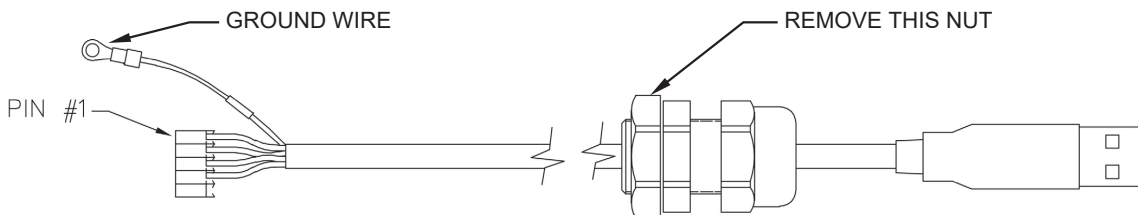

Figure No. 9
3. Loosen the gland connector nut from the 8200-B163-0A cable/gland assembly (see Figure No. 9) and slip off over the 5-pin cable connector and ground wire.
8. To attach the ground wire (see Figure No. 9); remove a 6-32 nut and washer from the corner of the main board.